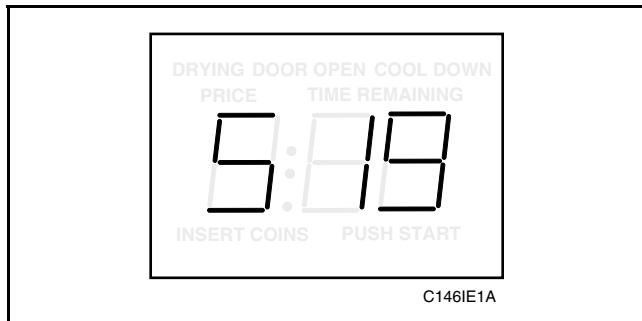

Figure 25
2. While pressing and holding the HIGH TEMP pad with one hand, press the MED TEMP pad with the other hand. Programmable option number 1, (Audio Signal “SIg”), will appear in the VFD, *Figure 25*.